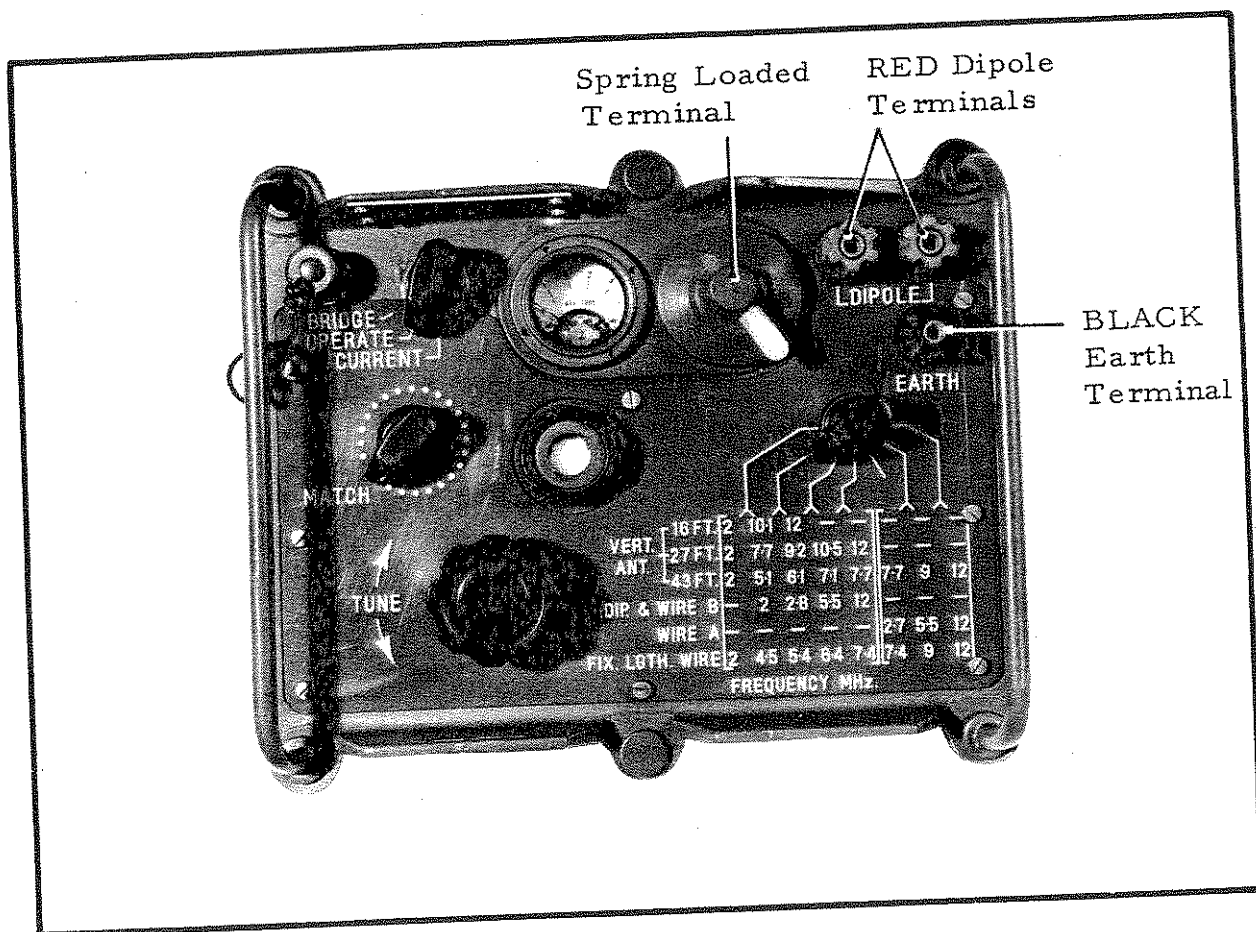

FIG 37
97. Antennae - The selection of antenna type, dipole or end fed wire, and the method of erection of the antennae are given in Chapter Four. The four terminals located on the front panel of the coupler (refer Fig 37) are: